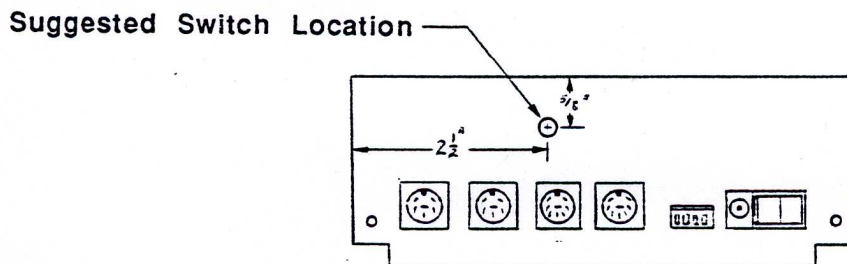

Figure 4 SUGGESTED SWITCH LOCATION
26. Drill a 1/4" hole in the Indus GT case assembly to accomodate the JiffyDOS ROM selector switch. We recommend a position on the rear panel of the drive. See Figure 4 on the next page.